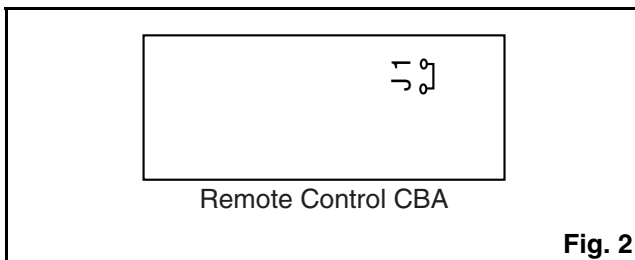

Fig. 2
- Add J1 (Jumper Wire) to the remote control CBA. (Fig. 2)